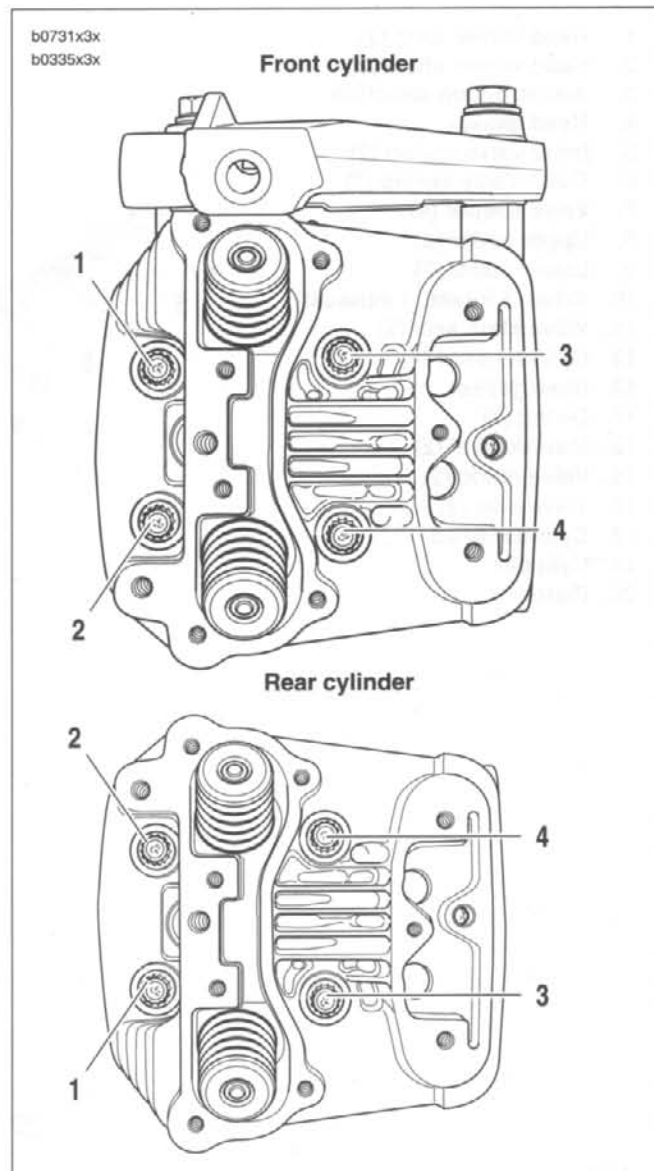

Figure 3-8. Head Screw Loosening/Tightening Sequence
Distortion to the head, cylinder and crankcase studs may result if head screws are not loosened (or tightened) gradually in the sequence shown in Figure 3-8.
- See Figure 3-8. Loosen each head screw 1/8-turn following the sequence shown.